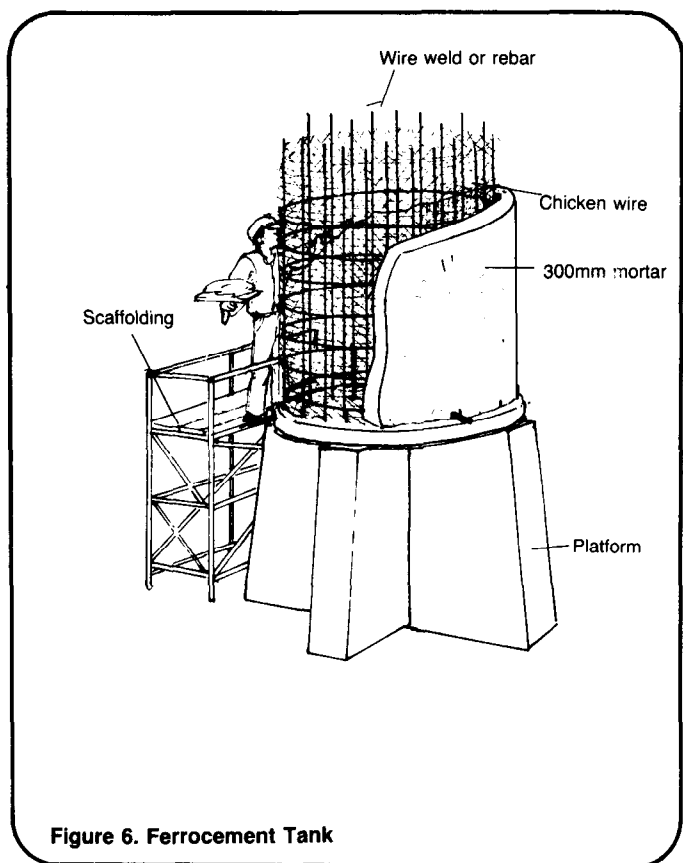

Figure 6. Ferrocement Tank
1. Build the ferrocement tank by building up from the platform with bricks and wire as shown in Figure 6. Add the weld mesh for walls and add the chicken wire to it. Chicken wire should be placed both inside and outside of the wire mesh. Be sure to leave places for the appropriate piping before applying the mortar.